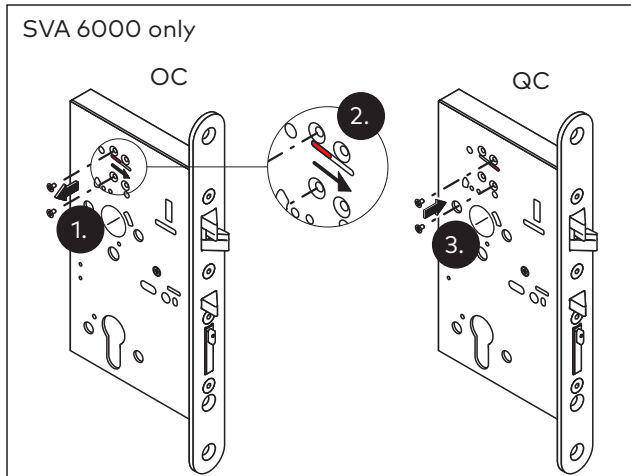

Fig. 20 Change operating current to quiescent current
1. If necessary, change operating current (OC) to quiescent current (QC) (Fig. 20).